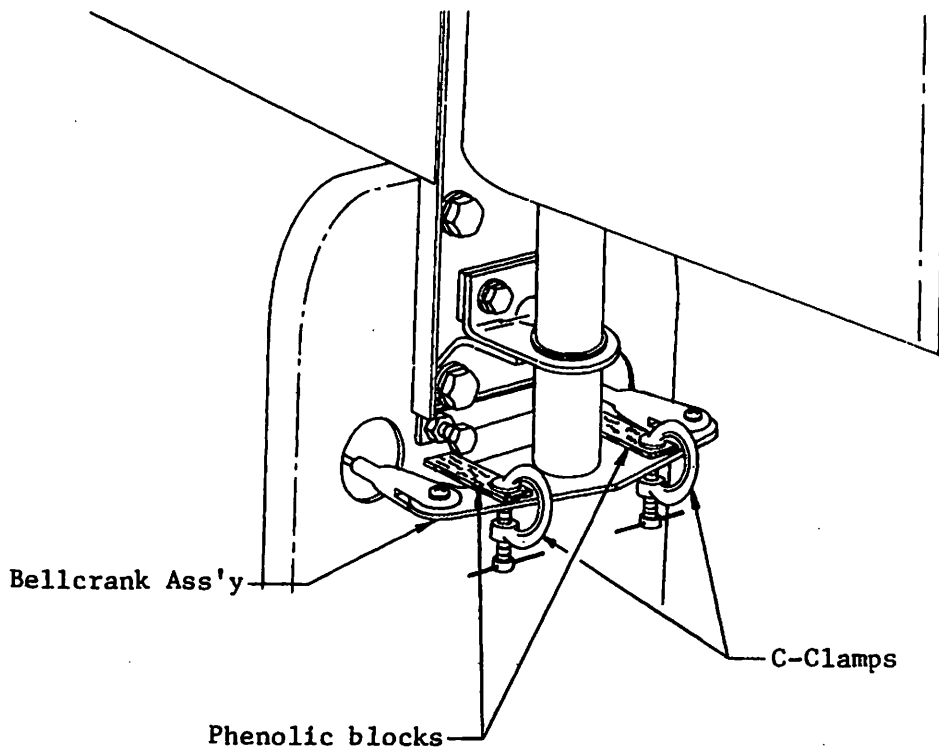

Figure 5-1. Rudder Rigging
- a. Position the rudder 4°R as indicated by a rudder rigging fixture. Secure the rudder in this position, (Figure 5-1 shows one method).